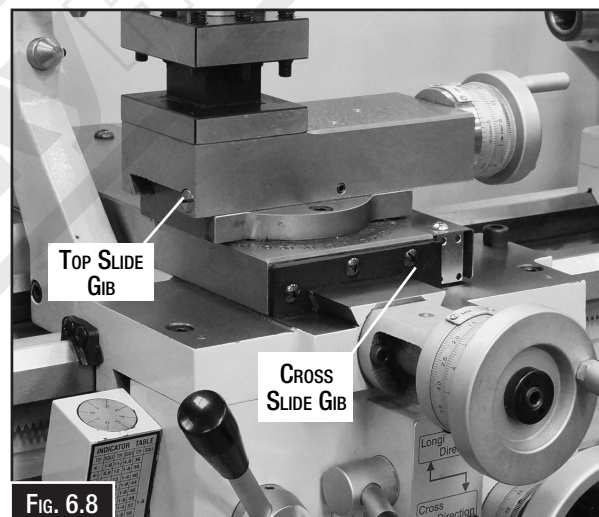

Fig. 6.8
2. Release the rear gib screw and tightening the front screw a little at a time. Check constantly for a smooth action throughout the full slide travel. (Fig. 6.8)